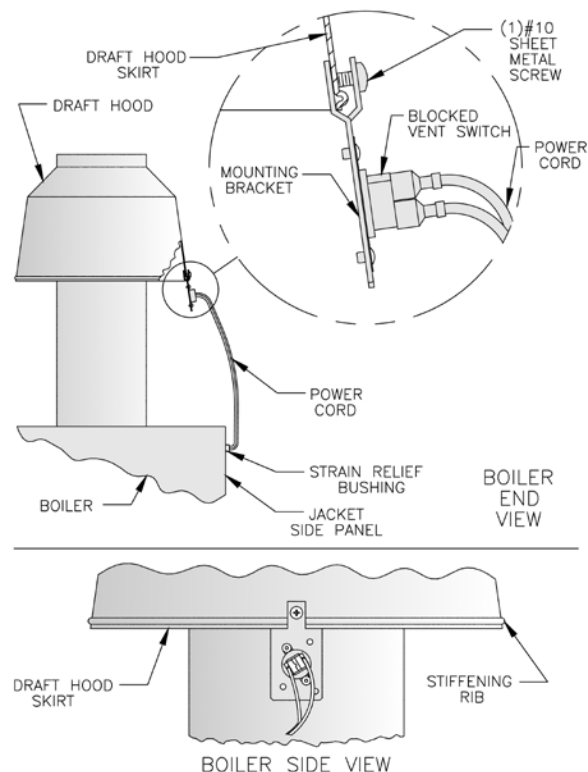

Figure 23: Blocked Vent Switch Installation
2. Position mounting bracket onto lower edge of Draft Hood skirt. Locate center tooth (with #10 sheet metal screw) on outside and other two teeth inside Draft Hood skirt. See Figure 23.
7. Verify power cord, mounting bracket, and Blocked Vent Switch are secure and located as shown in Figure 23.